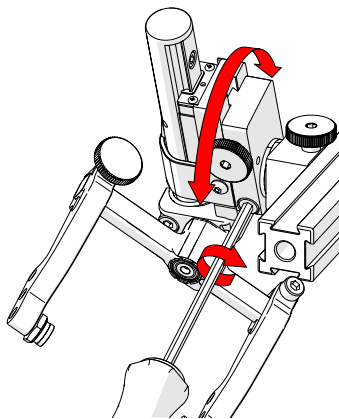

Fig. 91 - Rotate to position
- Rotate the main body of the probe holder until it is at the desired angle (Fig. 91).
- Tighten the longitudinal adjustment screw (Fig. 91).